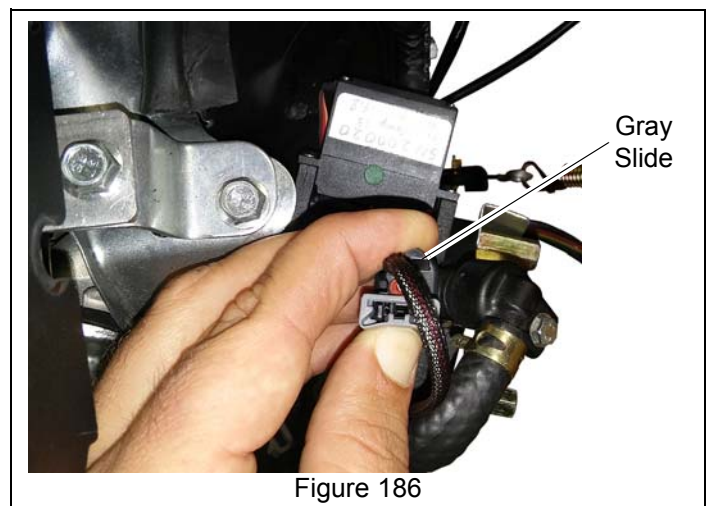

Figure 186
- a. Move gray slide upward until it stops. Gently compress gray slide and remove connector. See Figure 186.